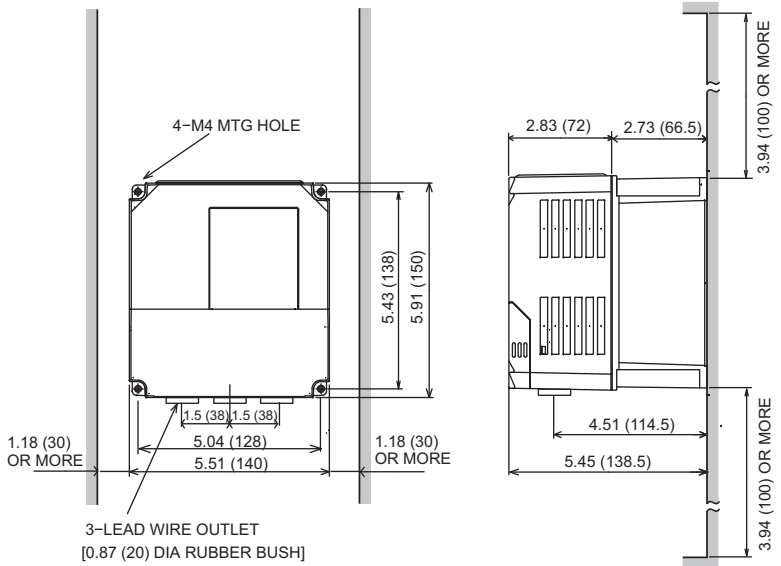

Fig. 1 Braking Unit Dimensions in inches (mm) CDBR-2015B, -2015C, -2022B,-2022C,-4030B, -4045B
Figs. 1 to 8 show the external dimensions and the spaces from the periphery.
- Provide the spaces shown in Figs. 1 to 8 between the units and the periphery.
- Install the units in the directions shown in Figs. 1 to 8. There will be no problem if they are installed vertically.